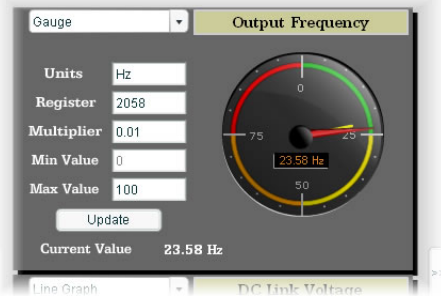

Figure 57: Gauge
Each of the gauge windows can be independently configured to display a user-defined register with a variety of flexible configuration options. While the behavior and presentation may vary slightly depending on the specific gauge chosen, all of the gauges share the following common elements (refer to Figure 57 for an example):
**Gauge:** Refer to Figure 57. This type of meter implements a rotary dial-type display format. The indicated value and units are shown numerically on the face of the gauge, and via the red indicator needle. The yellow needle shows the previous indicated value, thereby providing a simple historical reference. The "Min Value" attribute is not configurable; this gauge always starts at 0.